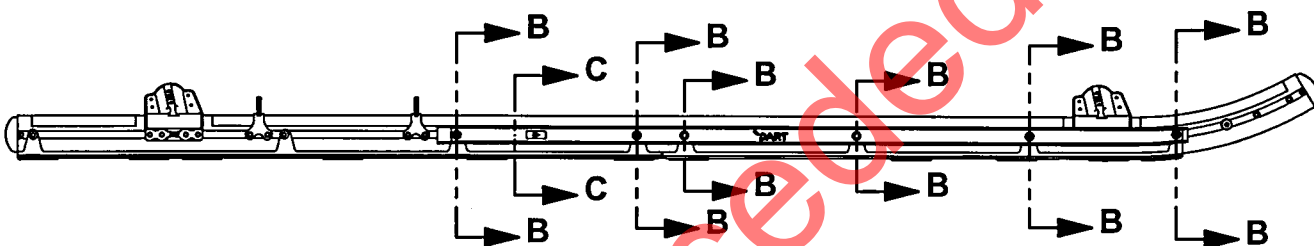

FIGURE 2: D119-646-314 SKIDTUBE PROTECTOR KIT, RH (SHOWN)
- 5.8 Install D5369-2 Cable Guard on the RH side of the aircraft using 6x AN3-50A bolts, 6x D5374-1 Bushings, 6x D3904-1 Washers, 6x MS21042L3 nuts as shown in Figure 2 Section B-B. Torque bolts to 15-25 in-lbs (1.7-2.8 N-m).
- 5.9 Install D5369-1 Cable Guard on the LH side of the aircraft using 6x AN3-50A bolts, 6x D5374-1 Bushings, 6x D3904-1 Washers, 6x MS21042L3 nuts as shown in Figure 2 Section B-B. Torque bolts to 15-25 in-lbs (1.7-2.8 N-m).